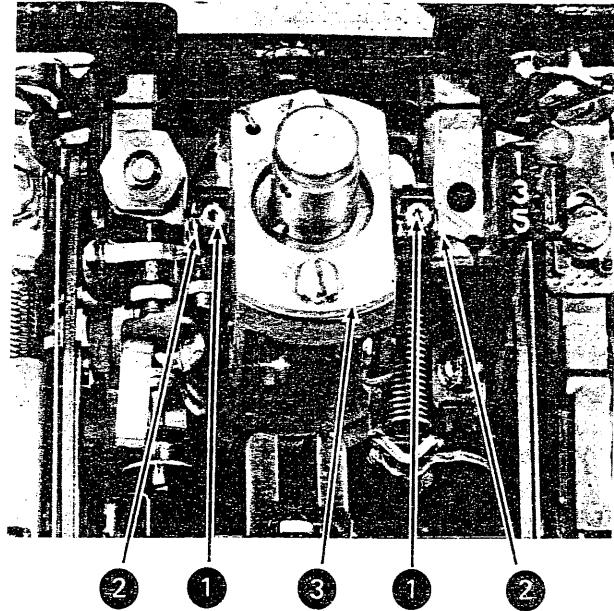

Figure 4-16. Lower-Ball-Socket and Tilt-Ring Removal (Steps 1-8)
6. Loosen the two setscrews (No. 1, Figure 4-16).
7. Remove the two pivot pins (No. 2, Figure 4-16).
8. Remove the tilt ring (No. 3, Figure 4-16) and remove the ball joint.